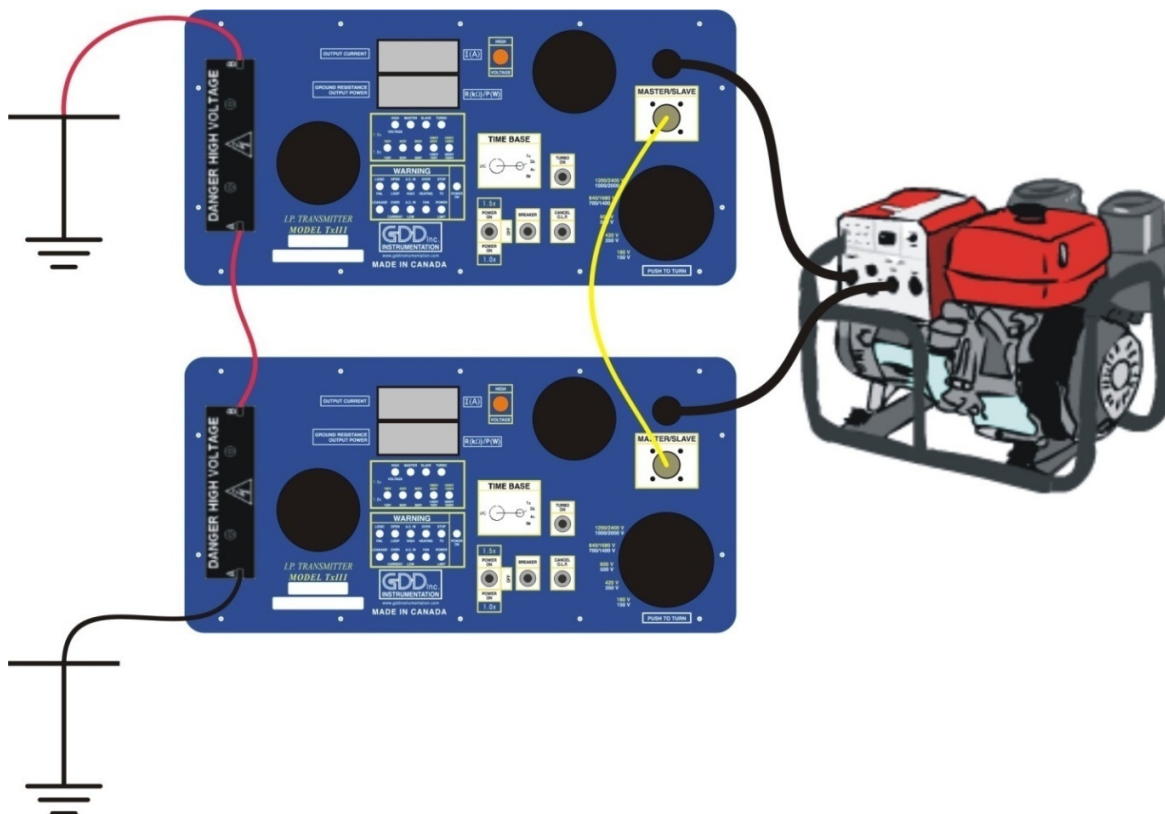

Figure 2 – Master/Slave system diagram
1. Connect the yellow synchronization cable (Master/Slave) to the transmitters. The Master/Slave cable terminations are different: one is labeled *MASTER* and the other one *SLAVE*. The transmitter is *MASTER* or *SLAVE* according to the termination of the cable connected on his interface. The *MASTER* and *SLAVE* LEDs (see section 2.1.2), indicate the mode of each transmitter. (see figure 2, yellow line)
2. Connect an insulated wire between the terminal (A) of one transmitter and the terminal (B) of the other one. (see figure 2, pink lines)
3. Connect the two power cables from the transmitters to the generator. (see figure 2, black lines)
4. Drive the electrodes into the ground and connect them to the unused terminals (A) and (B) by using insulated wires. (see figure 2, pink lines)